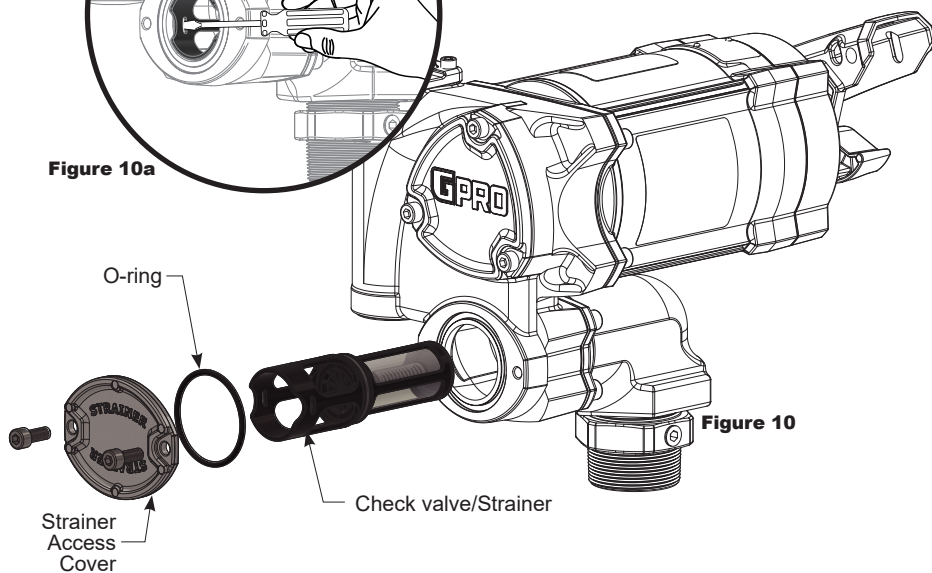

Figure 10
1. Turn the pump off and disconnect from power. Using 6mm hex wrench, remove the strainer access cover, O-ring, and check valve/strainer assembly and inspect for damage or clogs (see Figure 10). Clean the strainer with a soft-bristled brush and solvent. If the strainer is very dirty, compressed air may be used. If damaged, replace the check valve/strainer assembly.